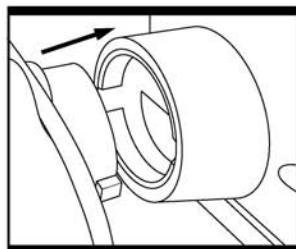

Fig. 3
4. DUST BAG (Fig. 3)
To attach the dust bag (3), align the tabs on the dust bag with the slots on the dust extraction port (5), slide fully in and rotate clockwise to keep it in position. (Fig. 3) For efficient operation, empty the dust bag (3) when it is no more than half full. This allows better airflow through the bag.